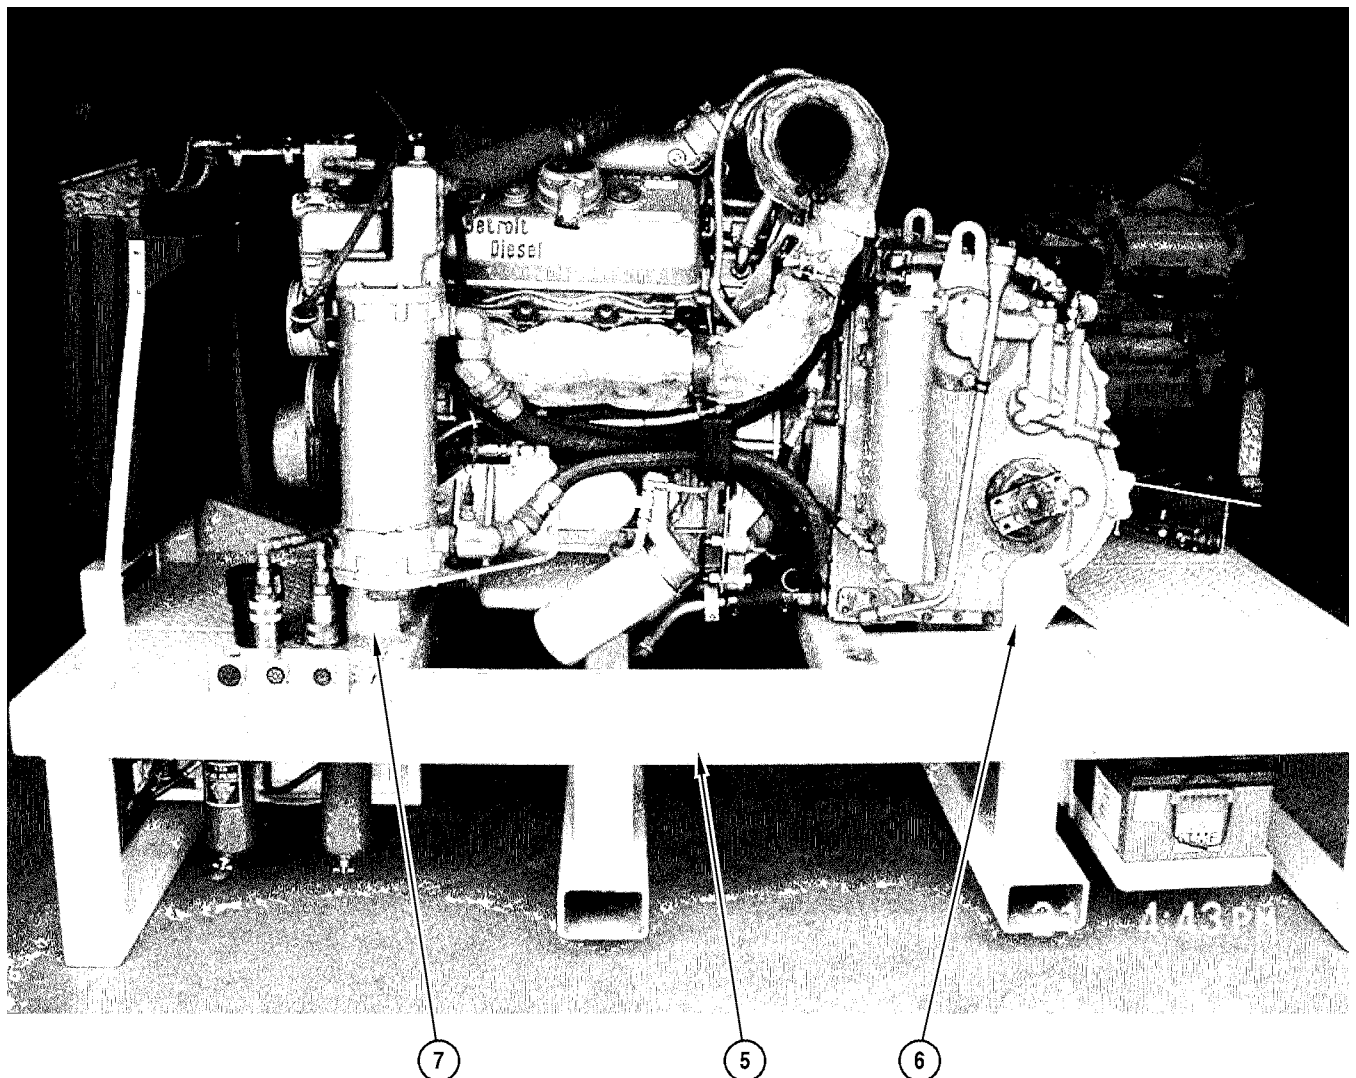

Figure 4-2. Powerplant Installed on Test Stand
5. Secure engine front mount to powerplant test stand front mount (7) (Figure 2-6) with two screws, four washers, and two nuts. See Figure 4-2.